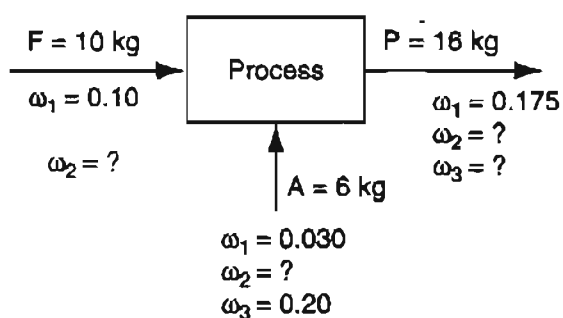

Figure TP7.2P1
1. In the steady-state flow process shown in Figure TP7.2P1, a number of values of ω (mass fraction) are not given. Mary says that nevertheless the problem has a unique solution for the unknown values of ω . Kelly says that four values of ω are missing, that you can write three component material balances, and that you can use three relations for $\sum \omega_i = 1$, one for each stream, a total of six equations, so that a unique solution is not possible. Who is right?